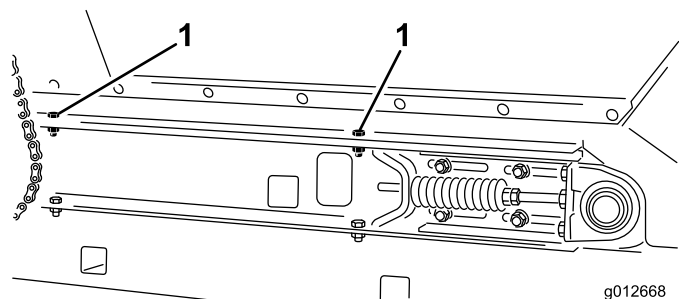

Figure 23
4. Remove (2) capscrews, washers and nut, on each side of machine, securing hopper to slider bed (Figure 23).